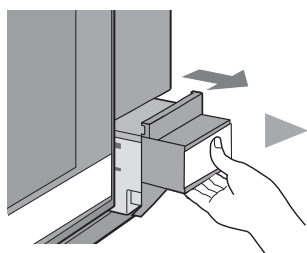

Figure 1
1. Pull the water tank toward you to remove. (Figure 1)